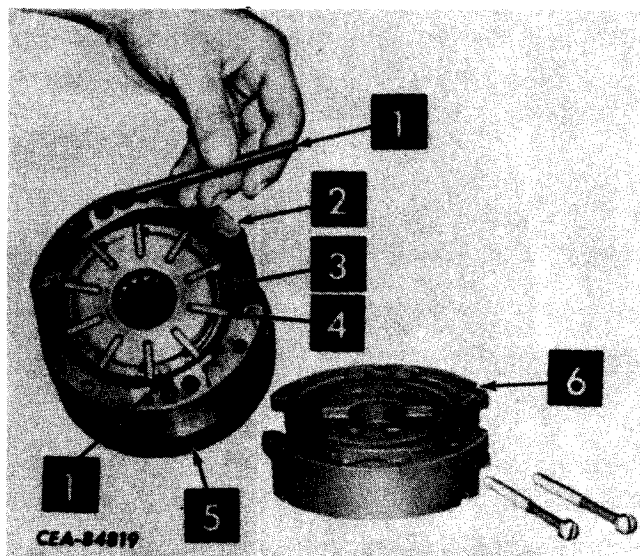

Figure 11-12
Remove wear plate (6, Fig. 11-12). Remove rotor (3) being careful that vanes (4) stay in position. Remove cam ring (2). Remove locating pins (1) by sliding them out of pressure plate (5).